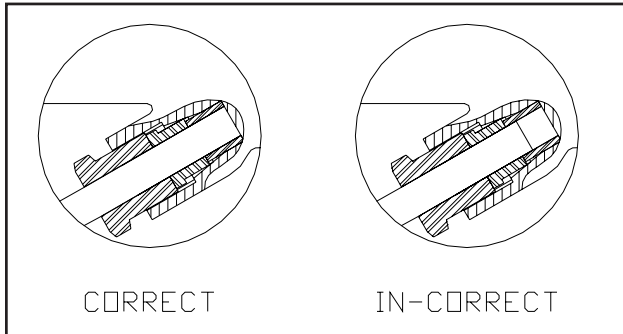

Figure 24: Proper Position - Fluid Tube or Fluid Hose
4. Continue sliding the tubing through the fitting and into the barrel. Ensure that it is seated in the barrel chamber (refer to Figure 24).